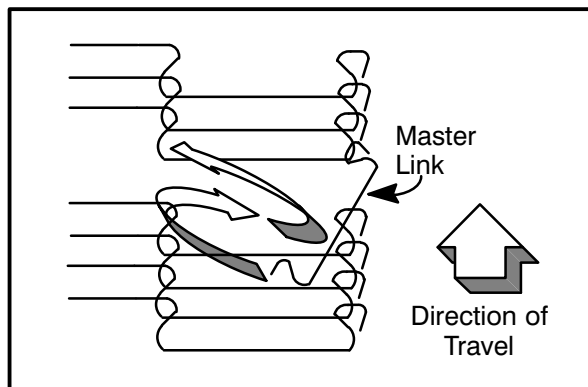

FIGURE 5
4. Install the inner and outer master links as shown in FIGURE 5.